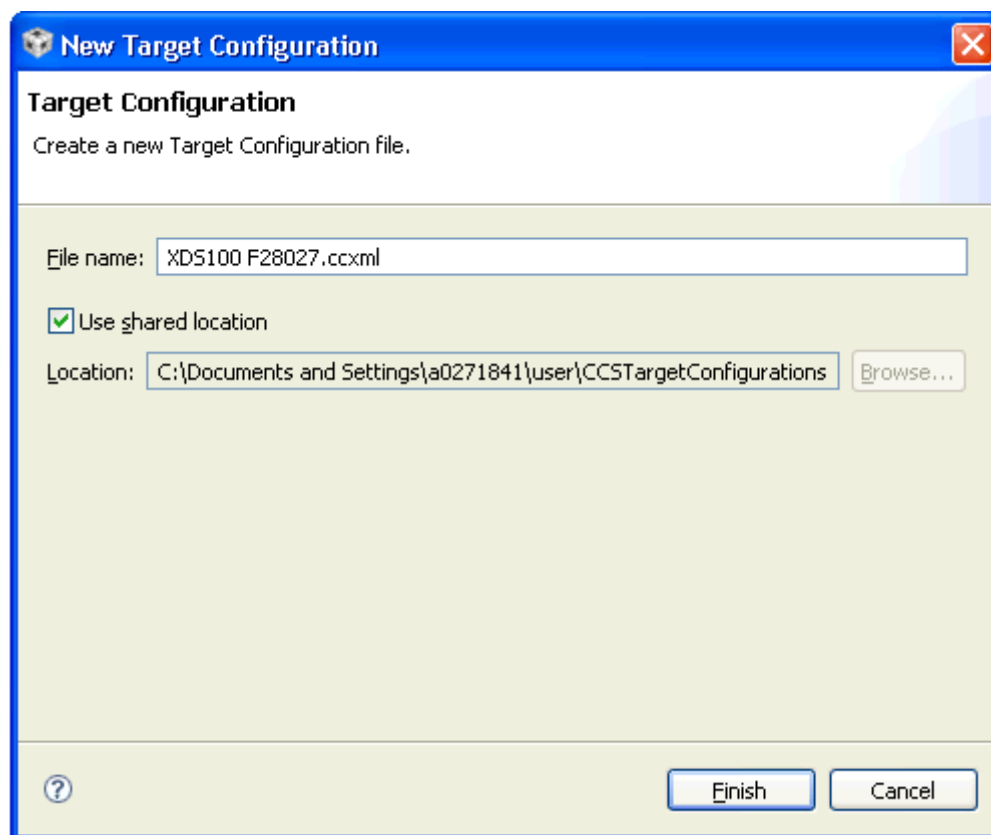

Figure 5. Creating a Target Configuration
4. This should open up a new tab as seen in Figure 5. Select and enter the options as shown: